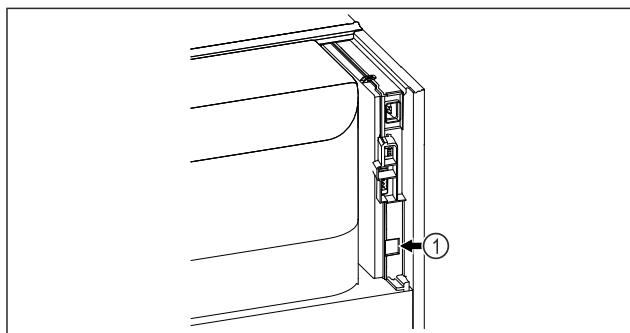

Fig. 109
- ☐ SmartModule Fig. 109 (1) is in use.